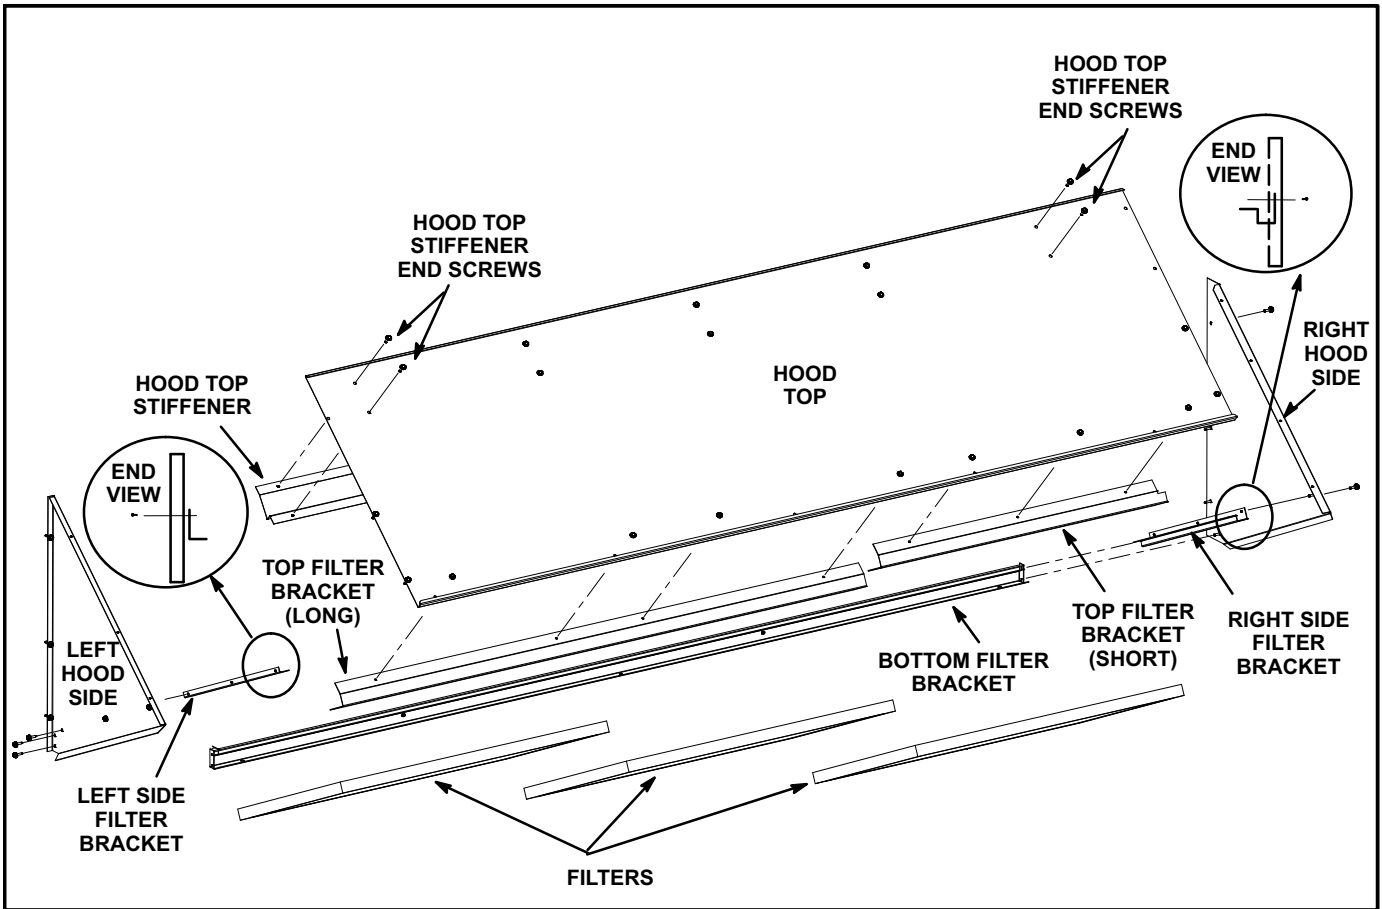

FIGURE 12
- 8- Install L-shaped left side filter bracket to left hood side. See figure 12.
- 10- Install the right side filter bracket to the right hood side. See figure 12.